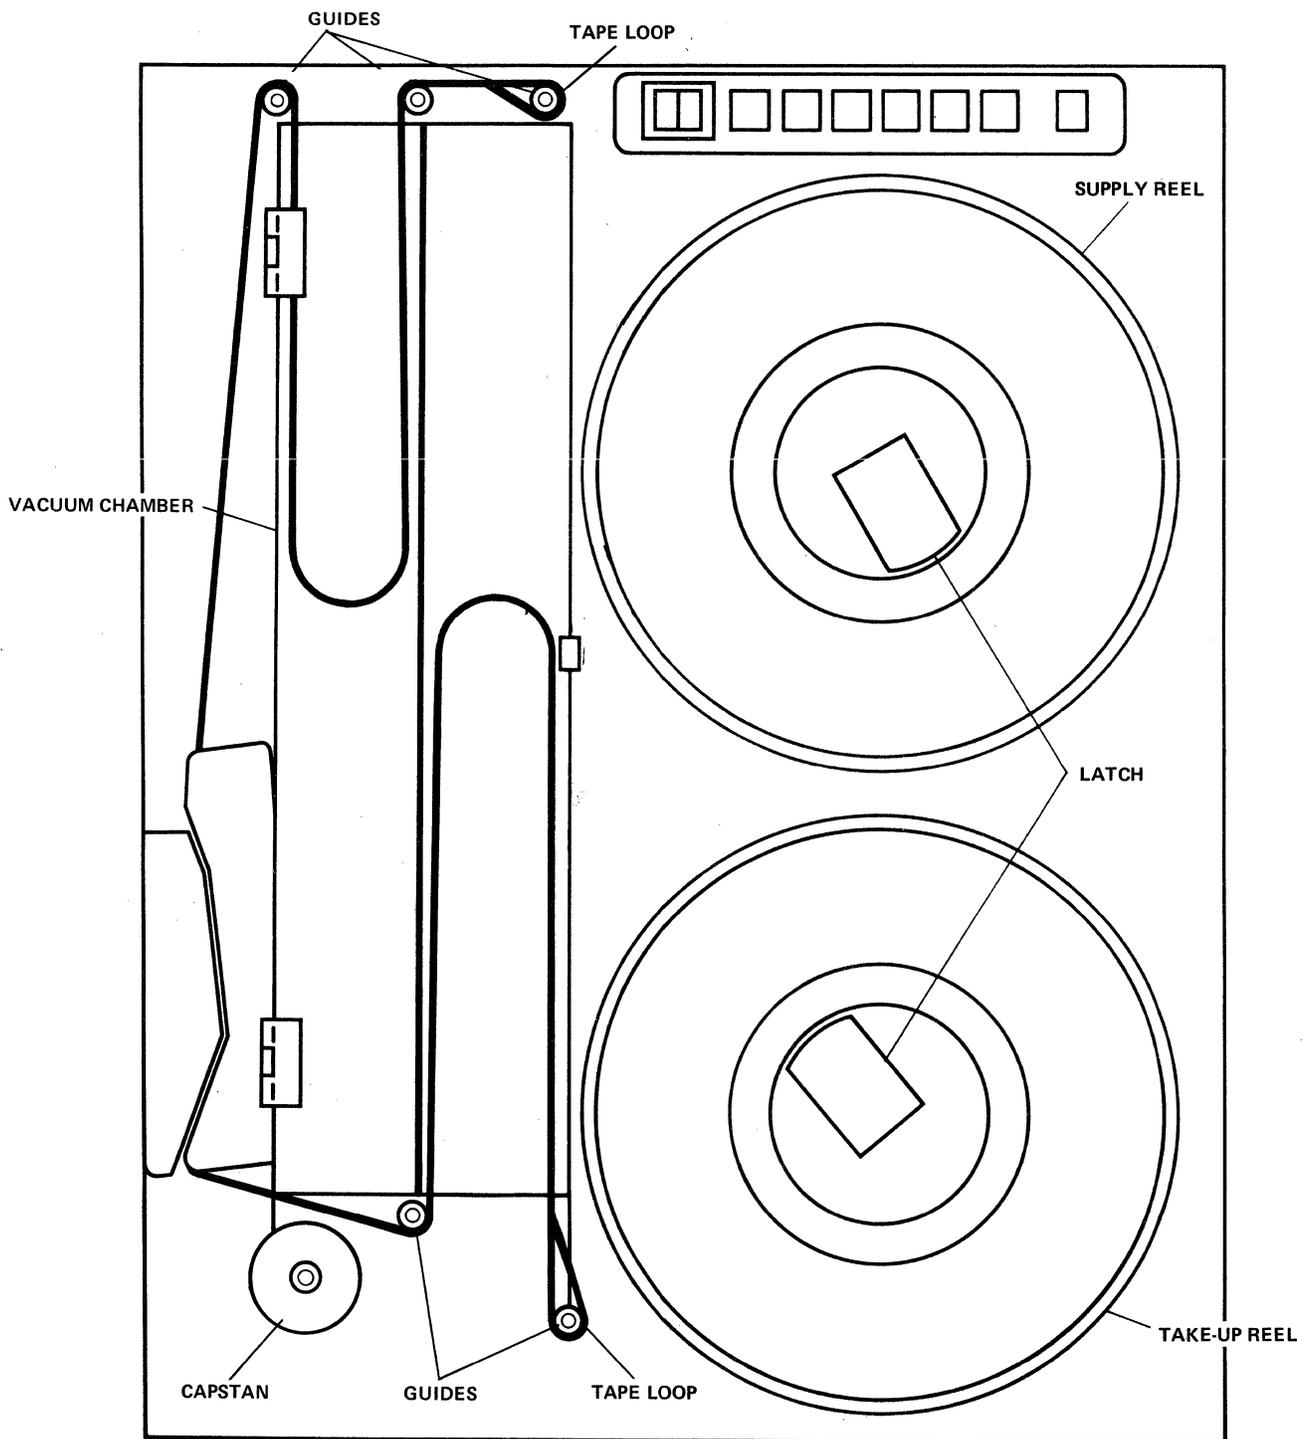

Figure 5-3 Tape Loop For Vacuum Column Servo Adjustment
- b. Remove the head covers. Load a loop of tape in the vacuum column as shown in figure 5-3.